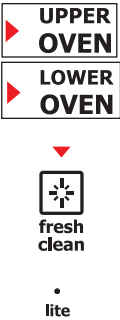

Figure 34: 2 hour lite clean
- 4. The fresh clean feature allows you to choose one of three time options. Press **lite** for a 2-hour clean (Figure 34); or